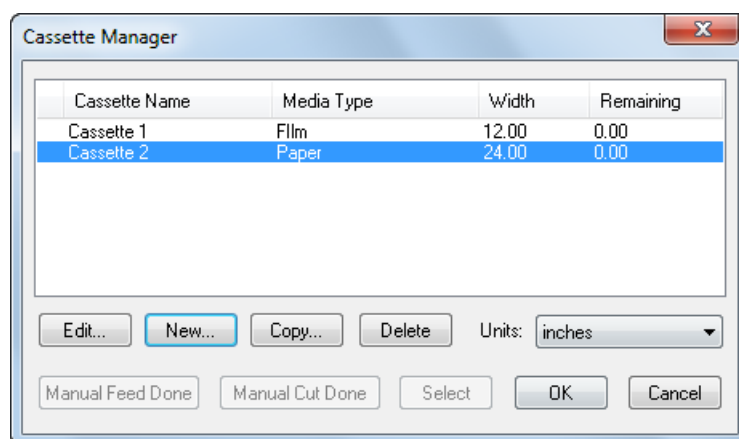

Figure 9.4 Cassette Manager dialog box
Before processing any jobs, you need to tell the RIP about the cassettes you are using and give details of the media currently in each cassette. You do this from the Cassette Manager dialog box. Click the **Cassette Manager** button in the Edit Page Setup dialog box or choose **Output > Cassette Manager** to open the Cassette Manager dialog box, as shown in Figure 9.4.
- If you perform a manual operation by using controls on the output device, you must inform the RIP. Display the Cassette Manager and click the button **Manual Cut Done** or **Manual Feed Done** whenever you perform the corresponding manual operation. See Figure 9.4, page 266, and the following description of the buttons.